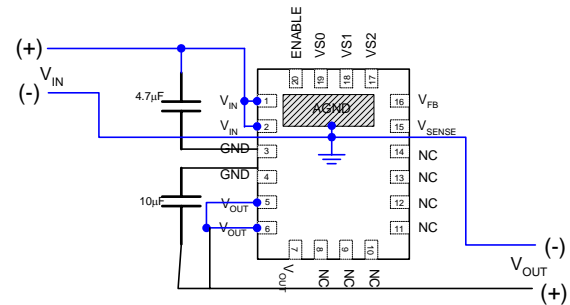

Figure 7. Common point grounding schematic.
1. **Single point grounding:** To limit AC current from flowing onto sensitive signal ground planes it is strongly recommended that a single point of contact be used for system ground. The thermal/ground pad located on the bottom of the package should be used for this common grounding point. The PGND pins, pins 3 and 4, are internally connected to the thermal/ground pad and so provides for an isolated power ground node for the input and output filter capacitors. Connect the input and output filter capacitors to these ground pins as shown in figure 7. Do not use these grounds for any other connections.